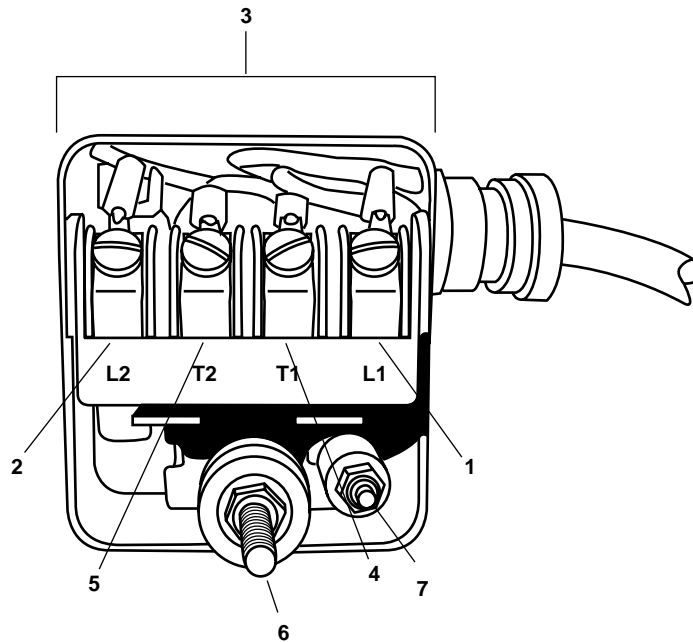

Figure 3. Pressure Switch
2. Use a multimeter to check for available voltage at terminal L1 (figure 3, item 1) and L2 (figure 3, item 2). If voltage is present, ensure that the proper circuit breaker is set to OFF, locked out, and tagged out (FM 55-502). If no voltage is present, continue with the procedure.
2. If a jumper wire is not already installed between terminals T1 (figure 3, item 4) and T2 (figure 3, item 5), install one.
3. Install the wiring into the pressure switch (figure 3, item 3), then connect the wiring to terminals L1 (figure 3, item 1) and L2 (figure 3, item 2), using the labels from step 3 of Removal as a guide. Remove the labels.
- c. If the compressor does not start running when the pressure reaches 210 PSI (14.5 bar), adjust the cut-in pressure. To adjust the cut-in pressure, turn the spring loaded adjusting screw (figure 3, item 6) clockwise until the desired cut-in pressure is achieved. To decrease the cut-in pressure, turn the spring loaded adjusting screw counterclockwise until the desired cut-in pressure is achieved.
- e. If the compressors do not stop running when the starting air pressure reaches 250 PSI (17.2 bar), adjust the cutoff pressure. To adjust the cutoff pressure, turn the spring loaded adjusting screw (figure 3, item 7) clockwise until the desired cutoff pressure is achieved. To decrease the cutoff pressure, turn the spring loaded adjusting screw (figure 3, item 7) counterclockwise until the desired cutoff pressure is achieved.